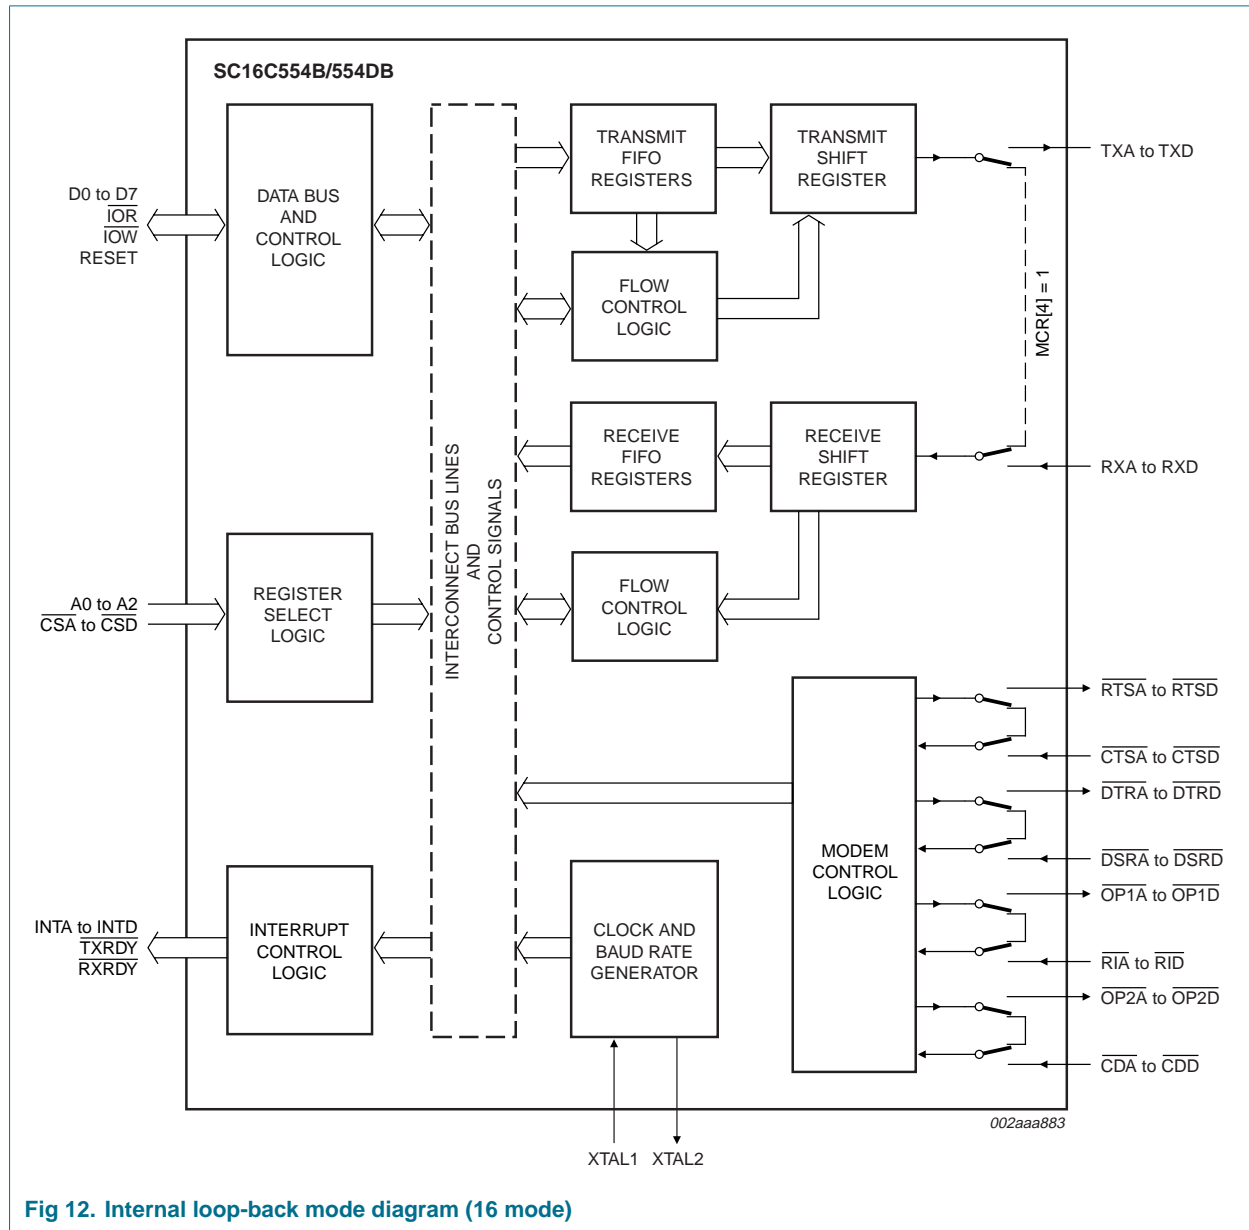

Fig 12. Internal loop-back mode diagram (16 mode)
The internal loop-back capability allows on-board diagnostics. In the loop-back mode, the normal modem interface pins are disconnected and reconfigured for loop-back internally. MCR[0:3] register bits are used for controlling loop-back diagnostic testing. In the loop-back mode, $\overline{OP1}$ and $\overline{OP2}$ in the MCR register (bits 2:3) control the modem \overline{RI} and \overline{CD} inputs, respectively. MCR signals \overline{DTR} and \overline{RTS} (bits 0:1) are used to control the modem \overline{DSR} and \overline{CTS} inputs, respectively. The transmitter output (TX) and the receiver input (RX) are disconnected from their associated interface pins, and instead are connected together internally (see Figure 12). The \overline{CTS} , \overline{DSR} , \overline{CD} , and \overline{RI} are disconnected from their normal modem control input pins, and instead are connected internally to \overline{RTS} , \overline{DTR} , $\overline{OP2}$ and $\overline{OP1}$. Loop-back test data is entered into the transmit holding register via the user data bus interface, D0 to D7. The transmit UART serializes the data and passes the serial data to the receive UART via the internal loop-back connection. The receive UART converts the serial data back into parallel data that is then made available at the user data interface D0 to D7. The user optionally compares the received data to the initial transmitted data for verifying error-free operation of the UART TX/RX circuits.